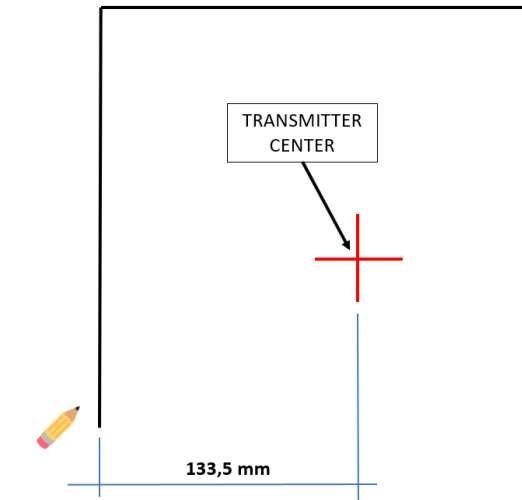

Figure 8
- 2.3. Draw a line perpendicular to the line just marked 133.5mm from the center (fig 8).